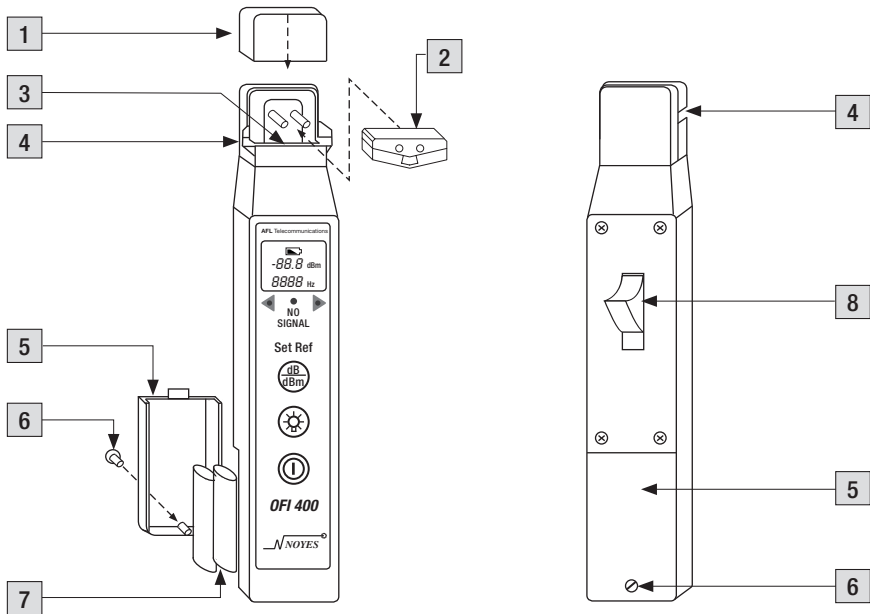

Figure 2-3: OFI 400 Assembly
Figure 2-3 illustrates the OFI 400 assembly parts listed below.
- 7 Gently insert the fiber being tested into the fiber groove at the top of the OFI 400 head (refer to Figure 2-3).